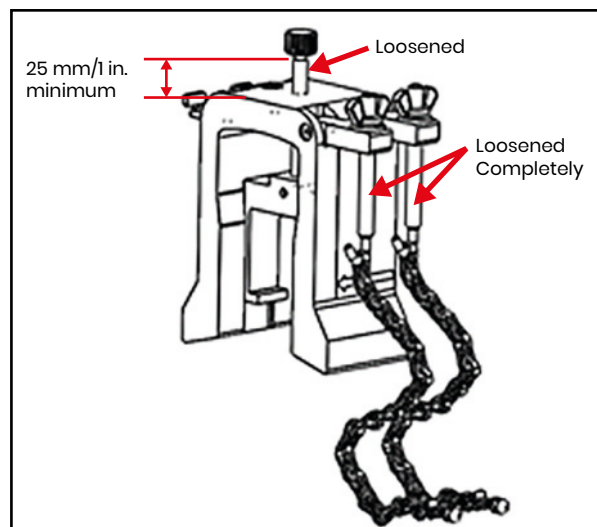

Figure 25: Loosened Yoke Screw and J-Hooks
1. Loosen the yoke screw at least 25 mm/1 in. (all the way for pipes <50 mm/2 in.) and loosen the J-Hooks all the way (see *Figure 25* below).